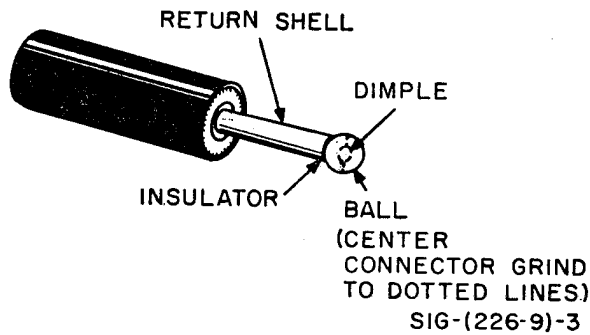

Figure 2. Filing the ball of Plug PL-55.
**4. Fabrication.** a. File down the ball of Plug PL-55 as shown in figure 2. After the ball has been filed flat, punch a dimple in the center of the flat surface with a center punch. The dimple should be suitable to accept the charging pin of the dosimeter.